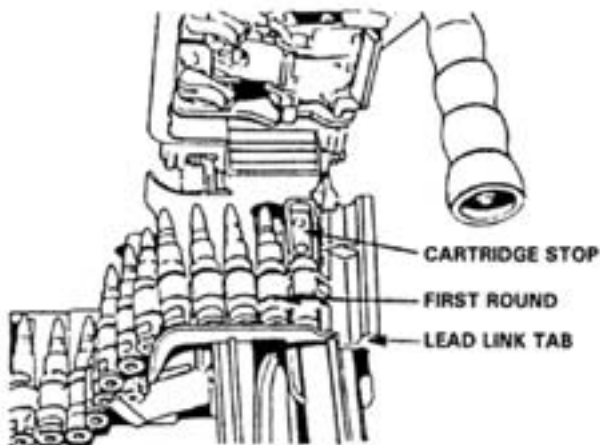

Figure 2-42. Cartridges in Metallic Belt.
a. Cartridge, 5.56mm Ball M855 (DODAC 1305-A059). The M855 cartridge has a gilding, metal-jacketed, lead alloy core bullet with a steel penetrator. The primer and case are waterproof. The ammunition is linked by a disintegrating metallic split-linked belt for firing from the ammunition box (see figure 2-42). In an *emergency*, the M855 round can also be loaded and fired from the SAW using a 20 or 30 round magazine from an M16. The M855 round is identified by a green tip, has a projectile weight of 62 grains, and is 2.3 cm long. This is the NATO standard round. It is effective against personnel and light materials.